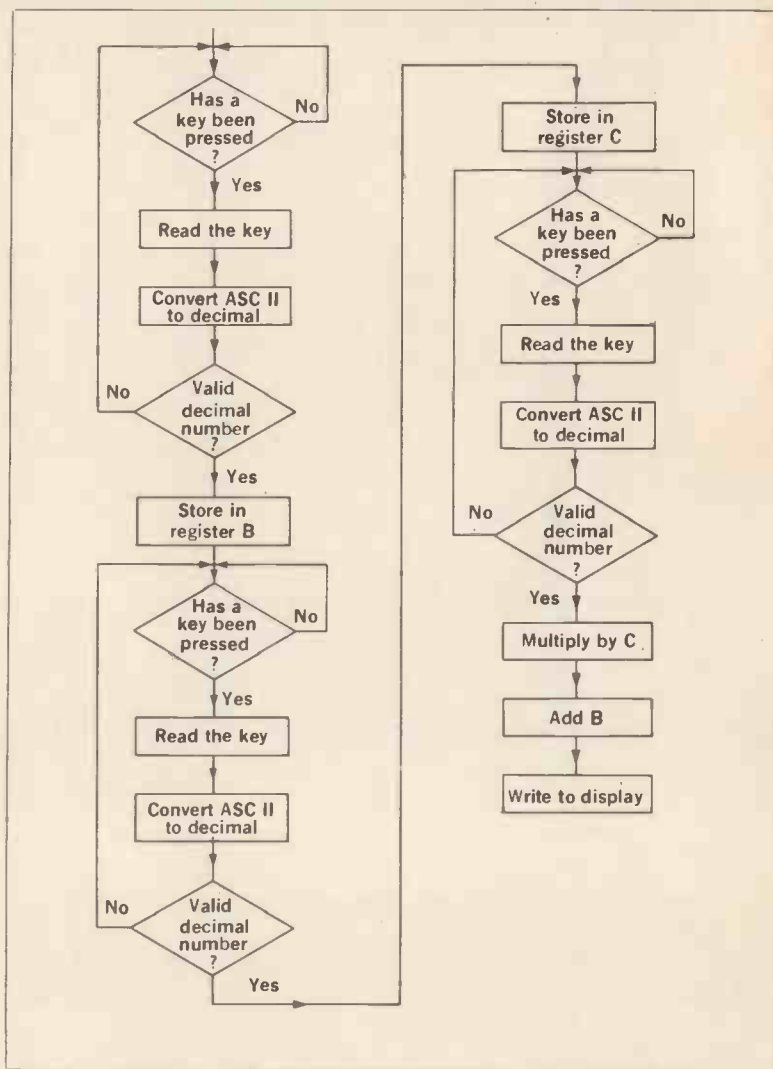

Figure 7. A program to read 3 numbers (x y z) from a keyboard and display x + y z.
Consider a program in which it is necessary to read three ASCII numbers, x , y and z , from a keyboard, calculate $(x + yz)$ and then output it to a display (Figure 7). It can be seen that much of the code is repeated three times. This is obviously a considerable waste of program space. For this reason a *subroutine* is used to fetch the data. When it is necessary to input data the subroutine is branched to or 'called'. At the end of the subroutine the data is in the accumulator and execution returns to the main program. As the subroutine may have been called from anywhere in the main program it must be told where to return to. Thus, when a CALL instruction is executed the current value of the program counter (PC) is saved before jumping. At the end of the subroutine this address is reloaded into the program counter. If a fixed memory location is used to save PC, then it is not possible to nest subroutines (CALL one from another), as the original return address would be overwritten. A method used in some minicomputers is to save PC, in a location reserved for this purpose, at the start of the subroutine. However, this will not work for subroutines stored in ROM.